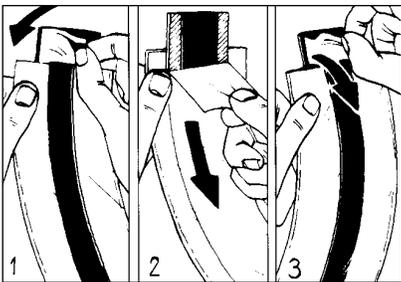

Figure 5
3. Remove the protective paper from the sealing strip on the outside surface of the TDUX duct seal and lubricate the strip abundantly. If the ducts are made of concrete or polyethylene, lubricate the outside surface of the TDUX seal as well. *(Figure 5)*